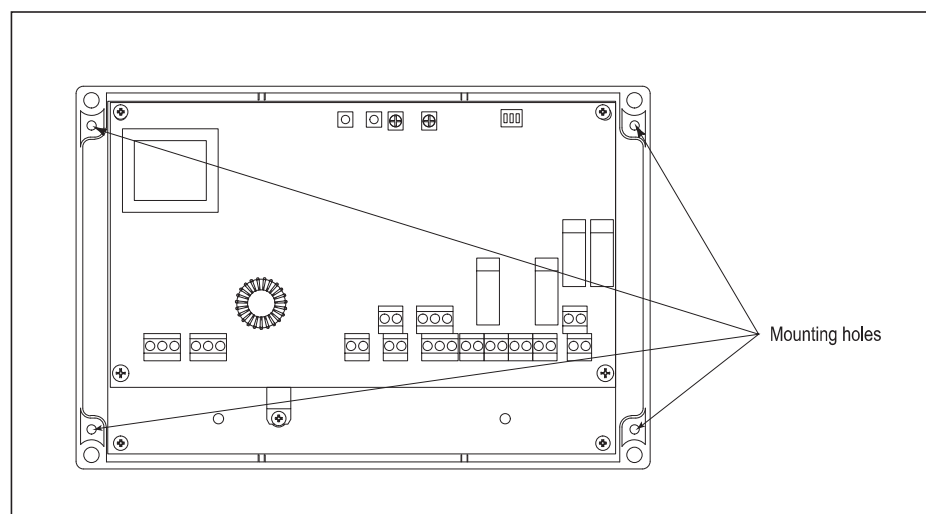

Fig. 2
The ADC150 control may be mounted directly to a wall or similar. To mount, remove the cover and locate the (4) mounting holes as shown in Figure 2.